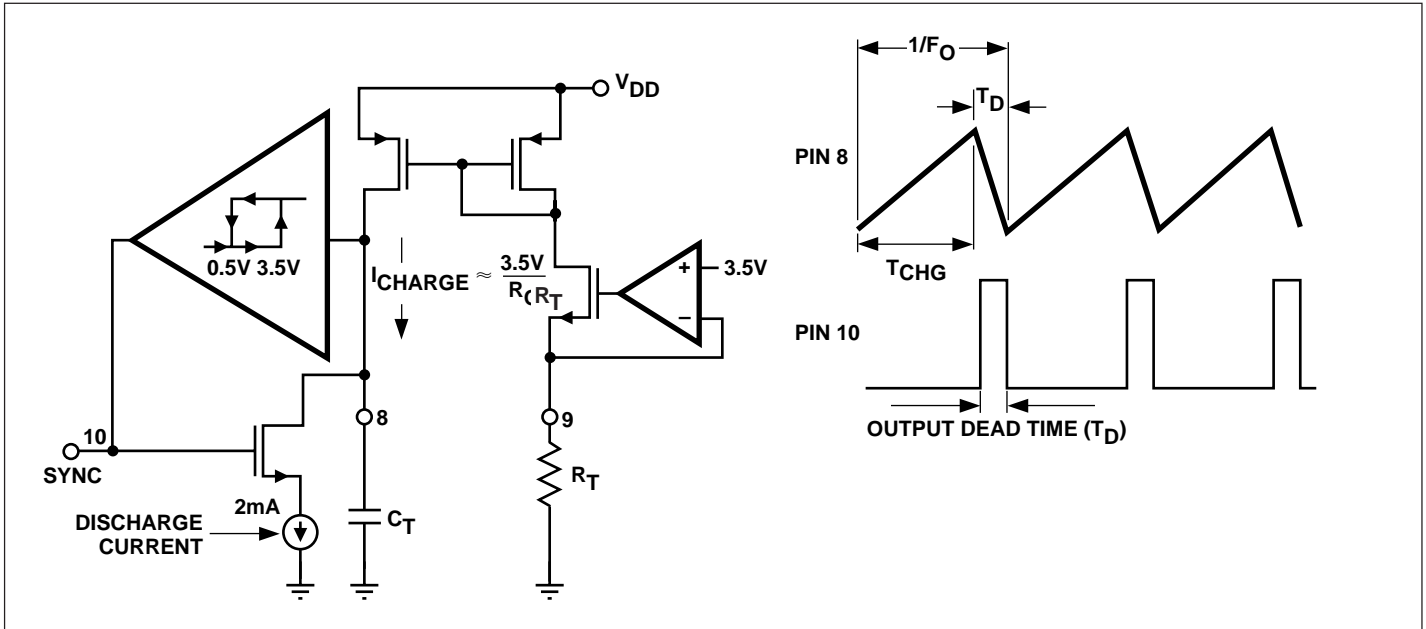

Figure 6. Oscillator Circuit
- 1) First determine the frequency of operation F_O and the desired "dead" time, T_D (see Fig.6 graph).
- 2) The current mirror in Fig. 6, shows: